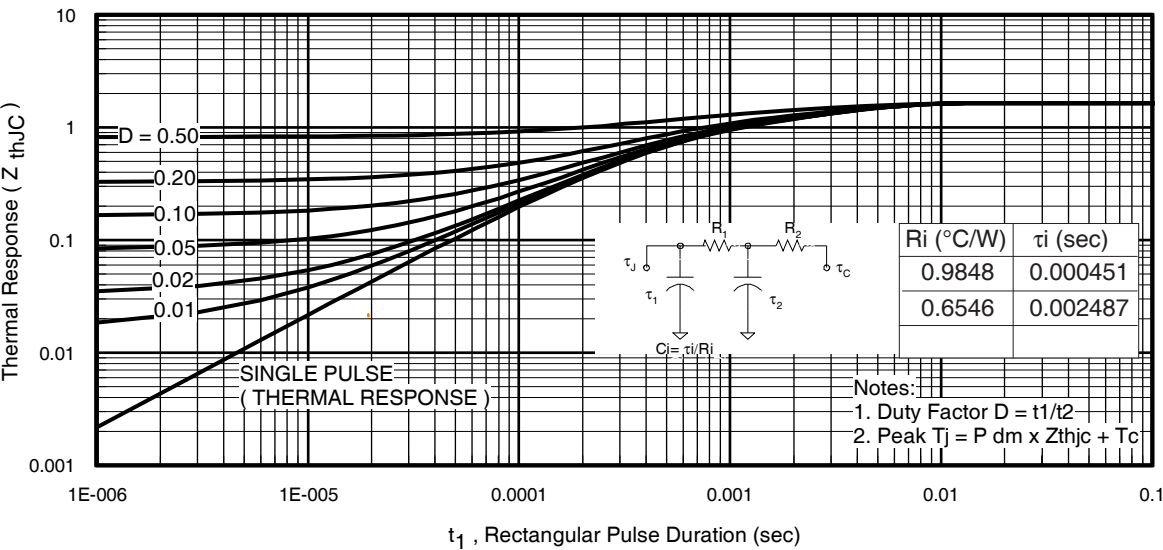
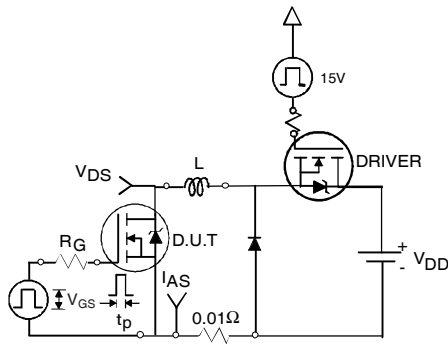

Fig 11. Maximum Effective Transient Thermal Impedance, Junction-to-Case
Fig 12a. Unclamped Inductive Test Circuit
- ① Repetitive rating; pulse width limited by max. junction temperature. (See fig. 11).
- ② Limited by T_{Jmax} , starting $T_J = 25^\circ\text{C}$, $L = 0.11mH$, $R_G = 25\Omega$, $I_{AS} = 37A$, $V_{GS} = 10V$. Part not recommended for use above this value.
- ③ $I_{SD} \leq 37A$, $di/dt \leq 920A/\mu s$, $V_{DD} \leq V_{(BR)DSS}$, $T_J \leq 175^\circ\text{C}$.
- ④ Pulse width $\leq 1.0ms$; duty cycle $\leq 2\%$.
- ⑤ $C_{oss \text{ eff.}}$ is a fixed capacitance that gives the same charging time as C_{oss} while V_{DS} is rising from 0 to 80% V_{DSS} .
- ⑥ Limited by T_{Jmax} , see Fig.12a, 12b, 15, 16 for typical repetitive avalanche performance.
- ⑦ This value determined from sample failure population, starting $T_J = 25^\circ\text{C}$, $L = 0.11mH$, $R_G = 25\Omega$, $I_{AS} = 37A$, $V_{GS} = 10V$.
- ⑧ This is applied to D²Pak, when mounted on 1" square PCB (FR-4 or G-10 Material). For recommended footprint and soldering techniques refer to application note #AN-994.
- ⑨ R_θ is rated at T_J of approximately 90°C .
3. Equation below based on circuit and waveforms shown in Figures 12a, 12b.
$Z_{thJC}(D, t_{av})$ = Transient thermal resistance, see figure 11)